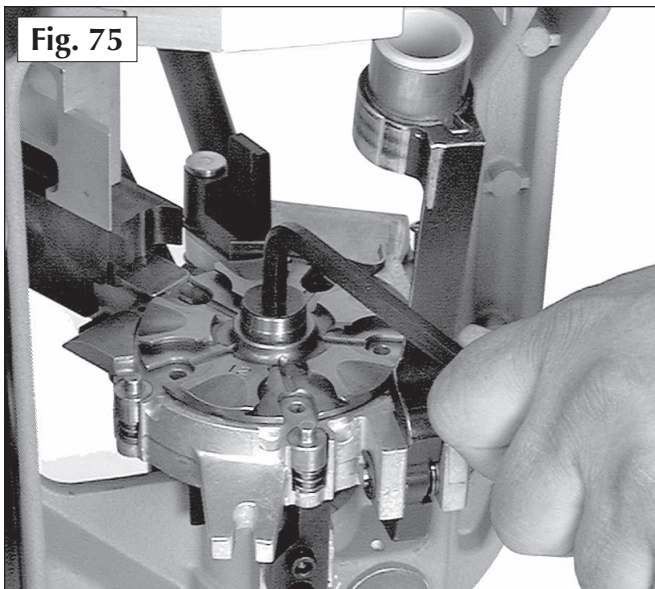

Fig. 75
8. Insert the shellplate bolt (#13418). Thread the shellplate bolt until it stops, then loosen it no more than one-quarter of a turn. **Fig. 75**